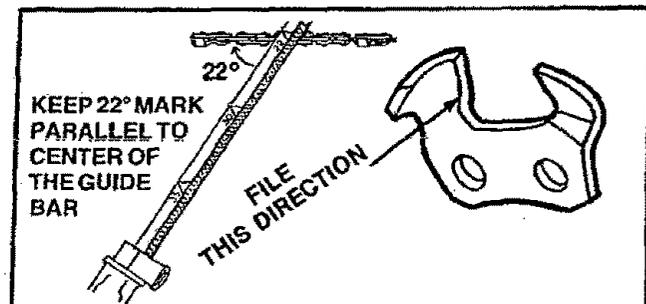

Figure 19
5. Hold the file holder level (90°) with the 22° guide mark parallel to the guide bar. Figure 19.
6. File from inside toward outside of cutter in one direction only — 2 or 3 strokes per side plate edge should be enough. Figure 19.